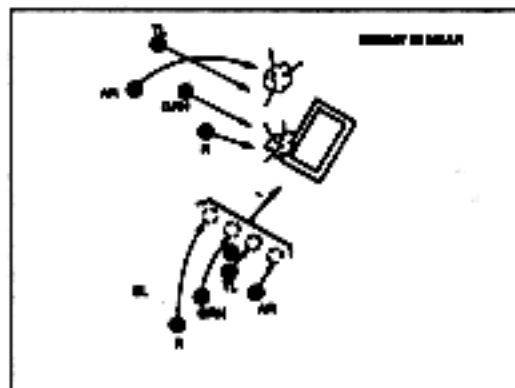

Figure 6-5. React to Near Ambush.
c. React to Ambush (Platoon/Squad). Enemy initiates ambush (Figure 6-5).